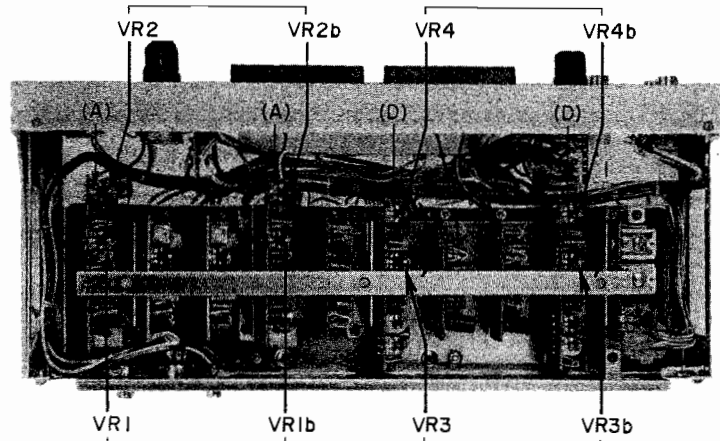
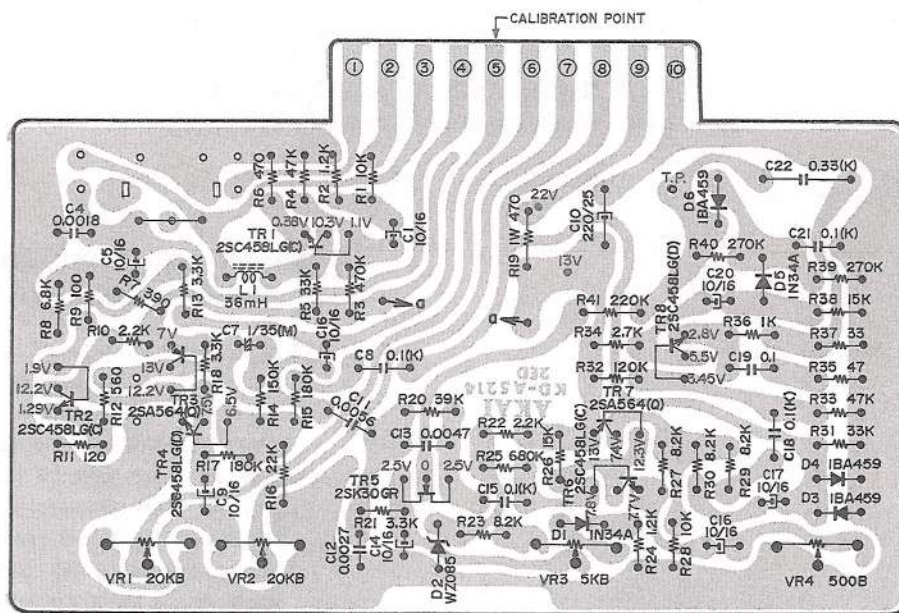

Fig. 25
Fig. 27 REC. DOLBY AMP. P.C. BOARD KD-A5214 (REVERSE SIDE)
- 1) As shown in Fig. 25, turn Rec. Dolby Amp. P.C. Board semi-fixed resistors VR3 (5 kB) and VR4 (500 B) as far as they will go in the direction of the arrow.
- 6) Adjust input level to obtain a calibration point (terminal(5))shown in Fig. 27 level of -30.5 dB.
- 7) At this time, take a reading of the level at terminal (6) or terminal (7).
- 8) Set Dolby Switch (SW-3) to "ON" position and adjust Rec. Dolby Amp. P.C. Board Dolby Amp. gain adjustment semi-fixed resistor VR4 (500 B) so that the level of terminal (6) or terminal (7) is 10 dB above the level when the Dolby Switch (SW-3) is at "OFF" position. (See Fig. 25)
- 10) At this time, reduce the level of terminal (6) or terminal (7) by 2 dB by adjusting Rec. Dolby Amp. P.C. Board FET gate bias adjustment semi-fixed resistor VR3 (5 kB) (See Fig. 25).
- 1) As shown in Fig. 25, turn Playback Dolby Amp. P.C. Board semi-fixed resistor VR1 (5 kB) and VR2 (500 B) as far as they will go in the direction of the arrow.
- 5) Adjust input level to obtain a -22.5 dB level at calibration point (terminal (6)) of Playback Dolby P.C. Board.
- 6) Set Dolby Switch (SW-3) to "ON" position and adjust Playback Dolby Amp. P.C. Board Dolby Amp. gain adjustment semi-fixed resistor VR2 (500 B) so that the level of calibration point (terminal (6)) is reduced by 10 dB. (See Fig. 25)
- 8) At this time, increase the level of calibration point (terminal (6)) by 2 dB by adjusting Dolby Playback Amp. P.C. Board FET gate bias adjustment semi-fixed resistor VR1 (5 kB).